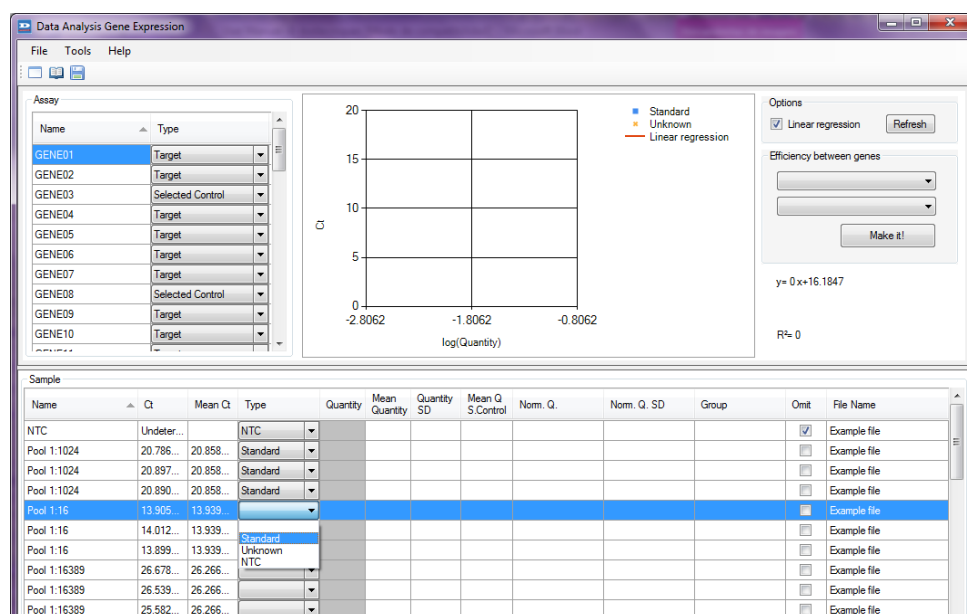
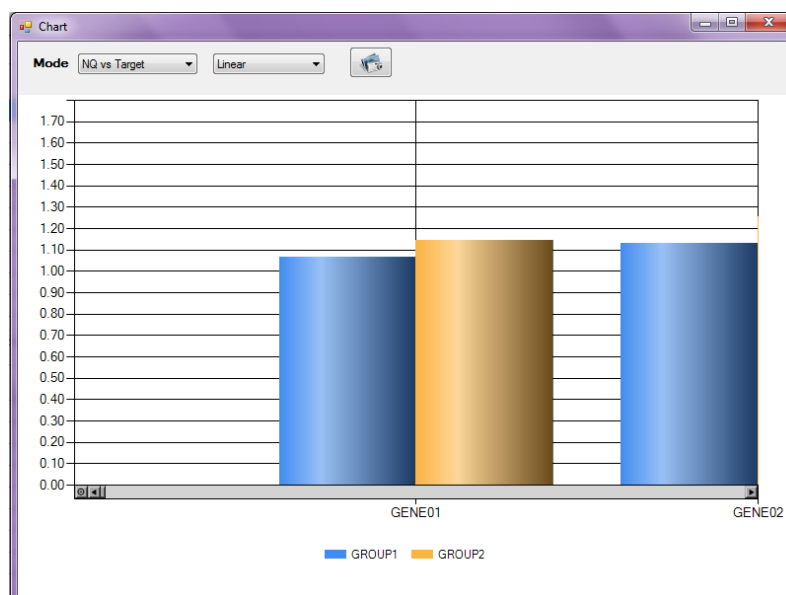

Figure 3. Datagridview of samples
Figure 10. Bar plot by group displaying NQ of each group (1 and 2) vs target
4.2.4. Set the sample design (Fig. 3)
NQ Plot by Group: In the sample design box (Fig. 3), the user can assign samples to biological groups (examples: genotype 1, genotype 2,... or male vs female) by clicking in the Group box and entering the group name. Groups can be only assigned to Unknown samples. The software plots the arithmetic mean of NQ of each group vs target or group (Fig. 10). NQ data can be displayed as Linear or logarithmic (Log₂ and Log₁₀).